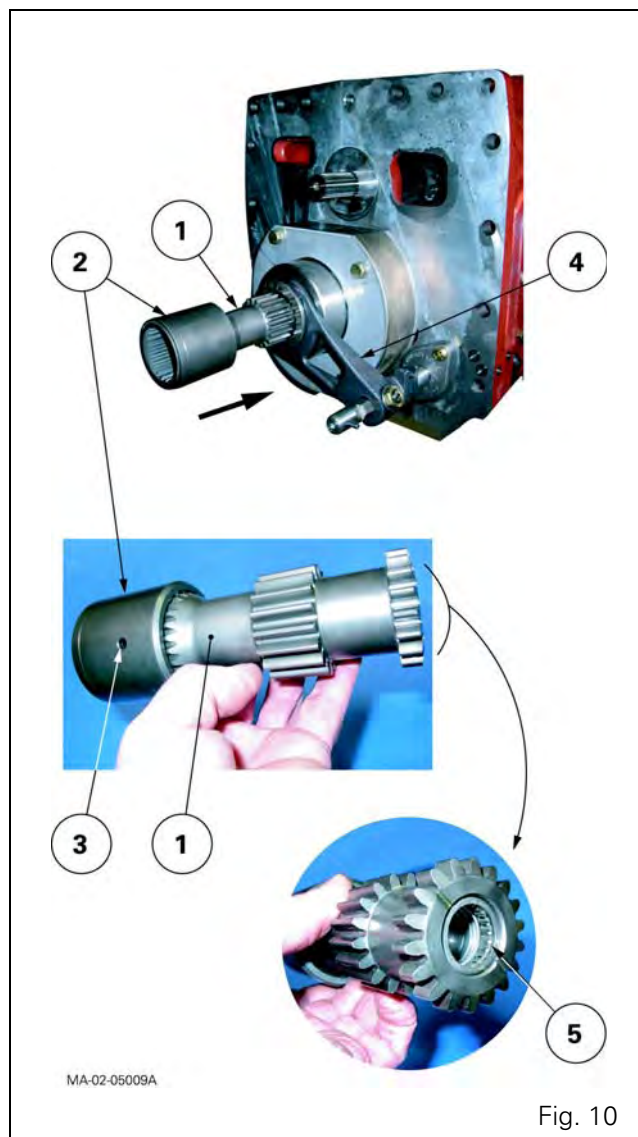

Fig. 10
- **Gearbox with creeper unit (Fig. 10)**